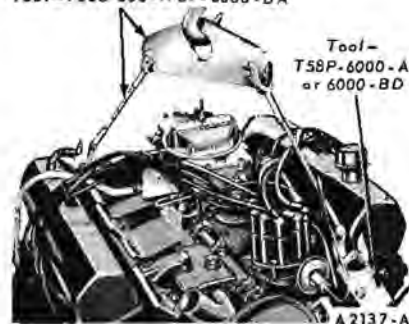

FIG. 54—Engine Lifting Brackets and Sling
head. Attach the engine lifting sling (Fig. 54).
2. Attach the engine lifting brackets and sling (Fig. 54). Remove the engine from the work stand.